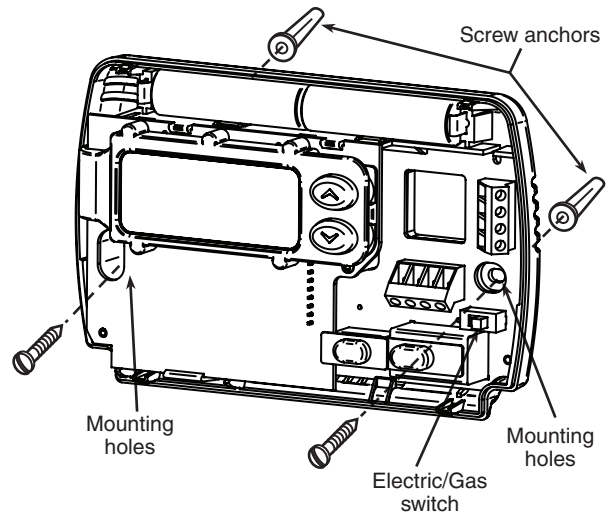

Figure 1. Thermostat Base
This thermostat is configured from the factory to operate a heat/cool, fossil fuel (gas, oil, etc.), forced air system. It is configured correctly for any system that DOES NOT require the thermostat to energize the fan on a call for heat. If your system is an electric heat or heat-pump system that REQUIRES the thermostat to turn on the fan on a call for heat, locate the **GAS/ELECTRIC switch** on the back of the thermostat (see fig. 1) and switch it to the **ELECTRIC** position. This will allow the thermostat to energize the fan immediately on a call for heat. If you are unsure if the heating/cooling system requires the thermostat to control the fan, contact a qualified heating and air conditioning service person.
5. Fasten base loosely to wall, as shown in fig. 1, using two mounting screws. Place a level against bottom of base, adjust until level, and then tighten screws. (Leveling is for appearance only and will not affect thermostat operation.) If you are using existing mounting holes, or if holes drilled are too large and do not allow you to tighten base snugly, use plastic screw anchors to secure subbase.
If "**LO BATTERY**" is displayed, the batteries are low and should be replaced. For best results, replace all batteries with new premium brand alkaline batteries such as Duracell® or Energizer®. To replace batteries, install the batteries along the top of the base (see Fig. 1). The batteries must be installed with the positive (+) end to the left.